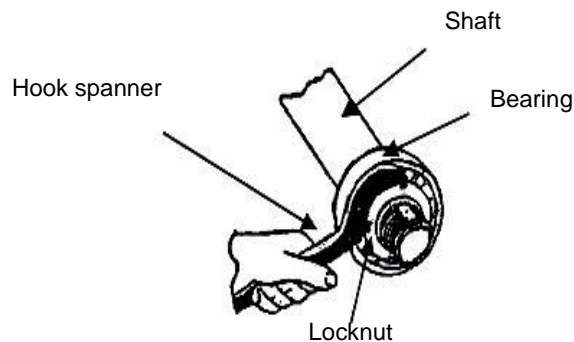

FIG 3.
- C. Slacken the lock nut two or three turns with a hook spanner. (Fig 3)